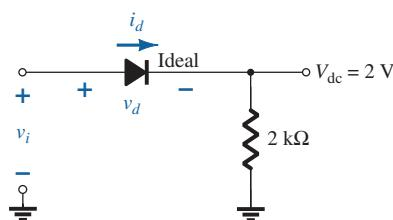

FIG. 168
22. Assuming an ideal diode, sketch v_i , v_d , and i_d for the half-wave rectifier of Fig. 168. The input is a sinusoidal waveform with a frequency of 60 Hz. Determine the profit value of v_i from the given dc level.